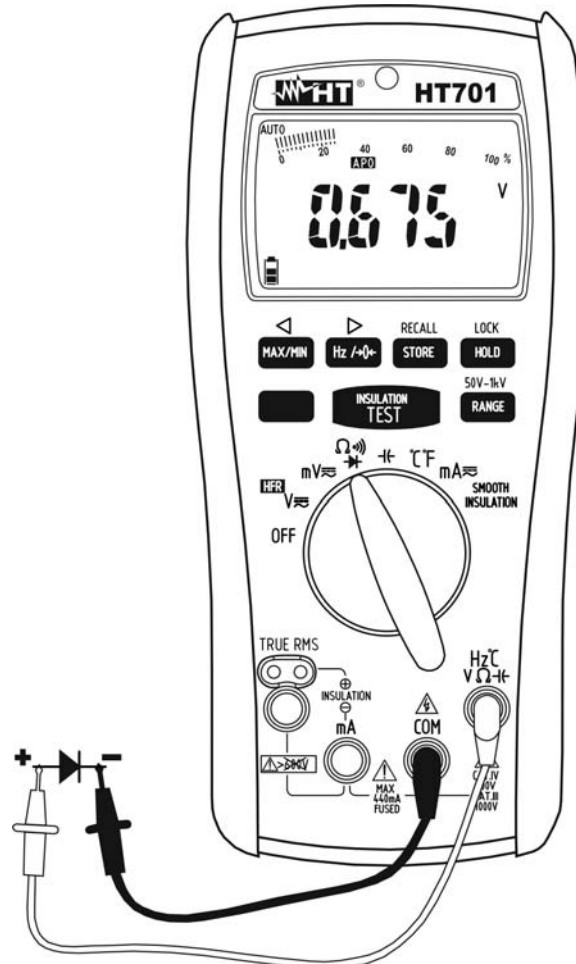

Fig. 7: Use of the instrument for diode test
4. Position the leads at the ends of the diode to be tested, respecting the indicated polarity (see Fig. 7). The value of directly polarized threshold voltage is shown on the display. For a good P-N junction, the instrument must show a value between 0.4 and 0.9V. If threshold value is equal to 0mV, the P-N junction of the diode is short-circuited.
5. If the instrument shows the message "**OL**", the terminals of the diode are reversed with respect to the indication given of Fig. 7 otherwise, the P-N junction of the diode is damaged